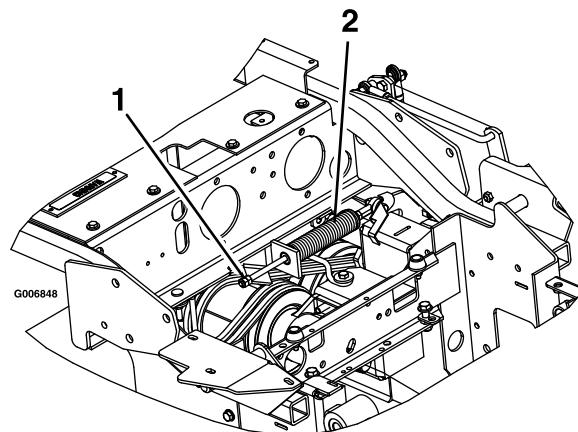

Figure 59
3. Locate the brake spring and thread the two jam nuts out to the end of the brake spring rod (Figure 59).